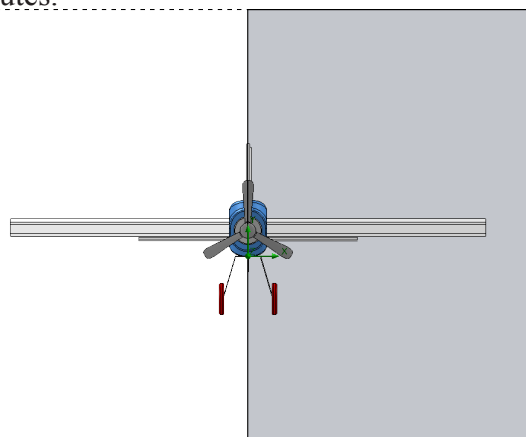

Fig. 13
Use **Z** key to zoom out to see domain, Fig. 13.
Step 4. **Only half the airplane** should be inside the domain as shown in Fig. 13. This will reduce the solver time. Solver can take several minutes.